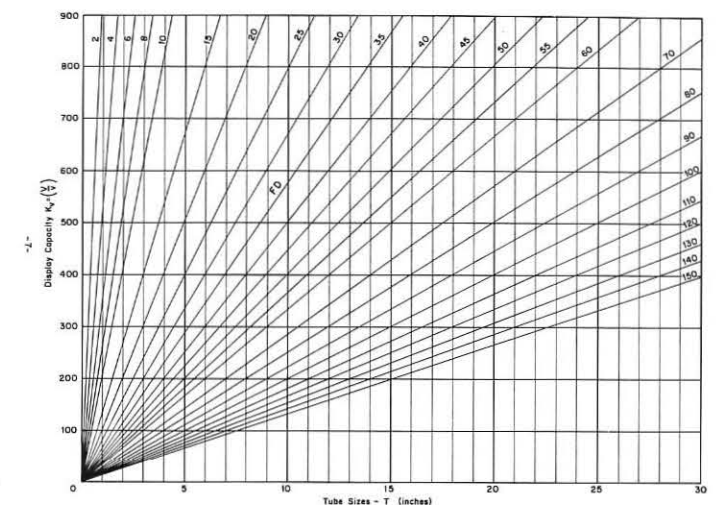

FIGURE 4: Display capacity as a function of CRT tube sizes and viewing conditions (4:3 aspect ratio).
Figures 4 and 5 show vertical display capacity plotted as a function of CRT sizes (diagonal) and the product of the viewing distance and resolution viewing factor for the two aspect ratios 4:3 and 3:4, as determined from Equations (5) and (6). Thus, once the vertical display capacity and viewing distances are established, the required tube size can be obtained for any particular viewing condition.